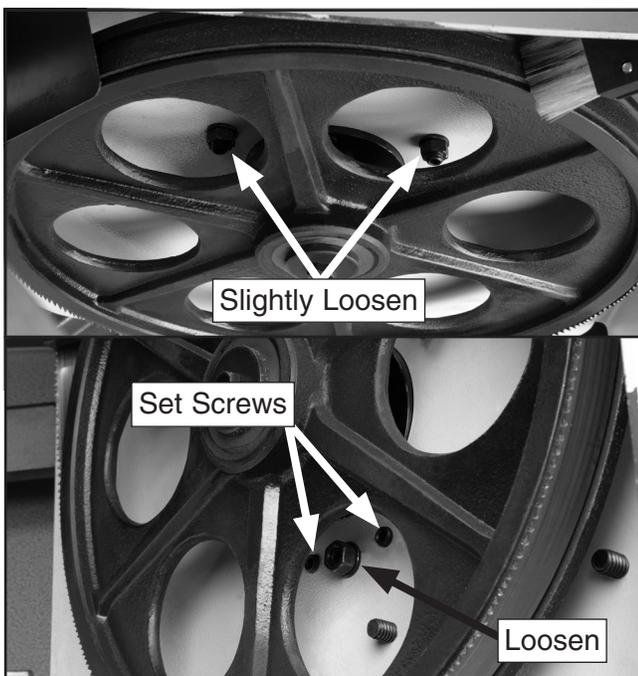

Figure 57. Lower wheel adjustments.
3. Through the lower wheel, loosen the three hex nuts indicated in **Figure 57**. Only slightly loosen the upper two hex nuts. This again minimizes lateral movement of the lower wheel and ensures accurate adjustments.